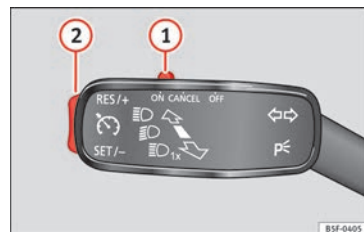

Fig. 152 Turn signal and main beam headlight lever: switch and rocker switch for the cruise control.
- Move the switch » Fig. 152 ① towards the left to **ON**.
- Briefly press the lower part of the rocker switch **SET-** » Fig. 152 ② once when you have reached the speed you wish to set.
- Press the upper part of the rocker switch **RES+** » Fig. 152 ② to increase the speed. The vehicle will continue to accelerate as long as you keep the rocker switch pressed. When you release the switch, the new speed is stored.
- Press the lower part of the rocker switch **SET-** » Fig. 152 ② to reduce the speed. The vehicle will automatically reduce its speed for as long as you keep the switch pressed. When you release the switch, the new speed is stored.
Cruise control is switched off if you reduce speed by depressing the brake pedal. Reactivate the control by pressing once on the upper part of the rocker switch **RES+** » Fig. 152 ②.
- when the lever ① is moved in the direction of **OFF** without being fully engaged.
To resume cruise control, release the brake or clutch pedal or reduce the vehicle speed to less than 180 km/h (112 mph) and press once on the upper part of the rocker switch **RES+** » Fig. 152 ②.
The system is **completely turned off** by moving the control » Fig. 152 ① all the way to the right hand side (set into the OFF position), or when the vehicle is stationary, switching off the ignition.